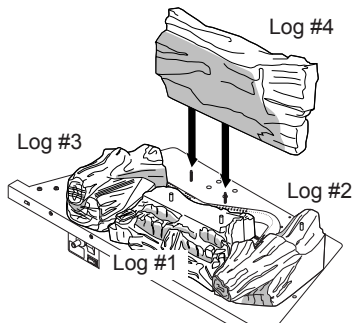

Figure 33 - Installing Log #4
4. Place log #4 onto two alignment screws to rear of base (see Figure 33).